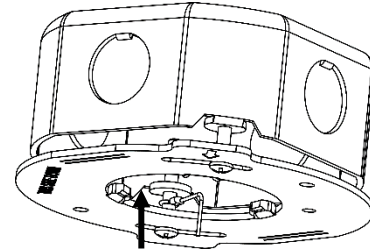

Figure 5 – Method B
- B) Thread the tether eyelet through the screw **BEFORE** fastening the mounting plate to the junction box. Ensure that the tether eyelet is placed in between the mounting plate and junction box, as shown in *Figure 5*.